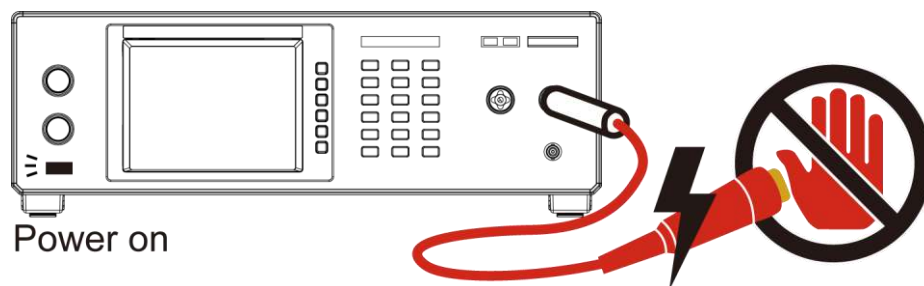

Figure 3-3 Do not touch here when outputs high voltage
- ※ **When the main unit is under test status, please do not touch alligator clip on test cable. Because the insulation of plastic layer is not enough, touch it may cause hazard as *Figure 3-3* shown.**